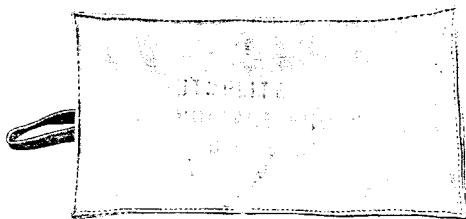

Fig. 4—AT-8924 C Canvas Bag
3.02 *C Canvas Bag (Fig. 4):* An AT-8924 C canvas bag is available to carry and store the 188A test set, B temporary bond, and W1BU ground cord.